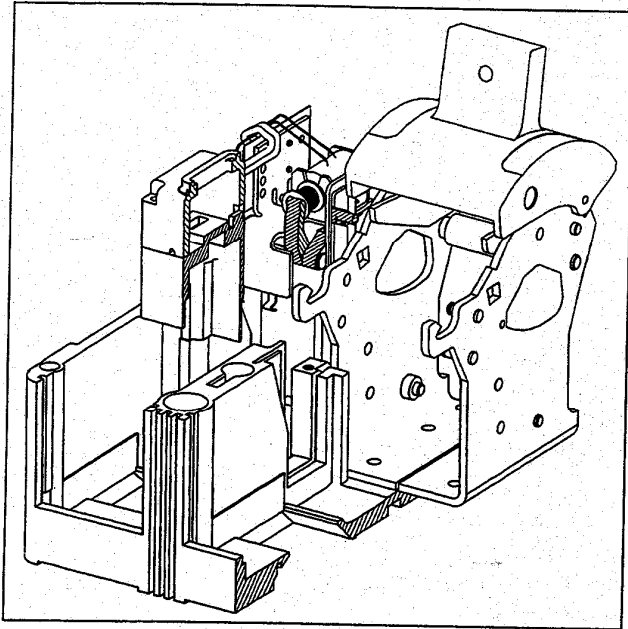

Fig. 2-3. UVR Installation
Note: To install UVR, circuit breaker operating mechanism must be in tripped position and the handle is pushed to "ON" position. (Fig. 2-3)
- 2-7. Install UVR as described in following steps (see Fig. 2-3):
- Push circuit breaker handle towards the ON position and hold while sliding UVR plug-in module into slots in trip unit (Fig. 2-3) until retaining clip snaps into trip unit. For terminal block assemblies, slide terminal block into mounting slot on side of base as plug-in module is being positioned.